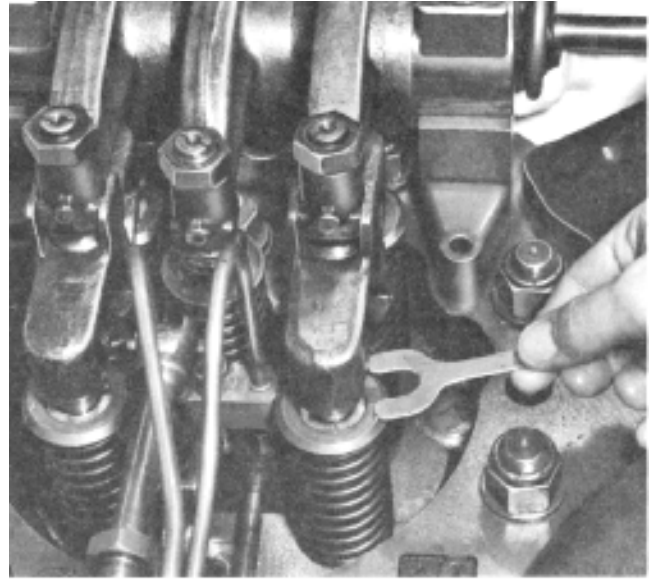

Fig. 15-9 - Checking Lash Adjuster To Valve Clearance
6. After running the engine until lube oil reaches operating temperature, check the clearance between lash adjuster bodies and the end of the valve stems with the piston near top center. If the clearance is less than minimum, the cylinder head should be removed for reconditioning or rejection. Use minimum clearance gauge, Fig. 15-9, to gauge clearance between lash adjuster and exhaust valve. This gauge is 1.59 mm (1/16") thick and it should fit between lash adjuster body and valve stem top, to ensure the minimum clearance.